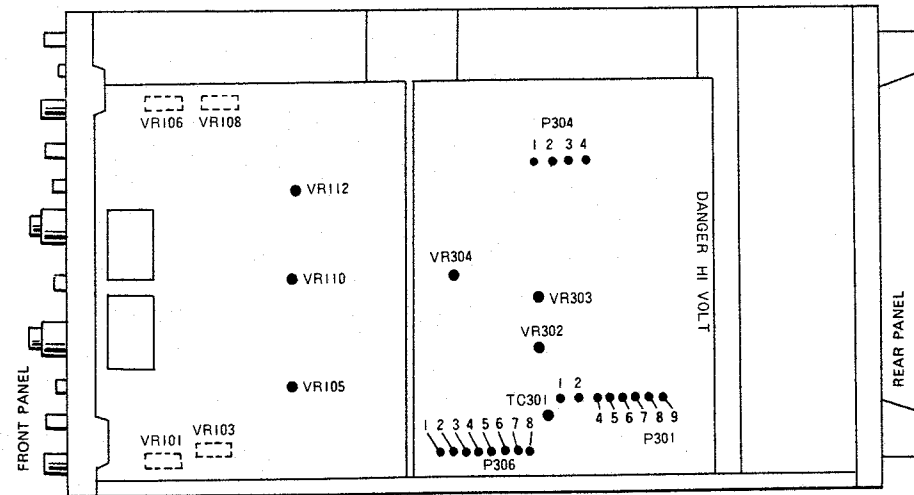

Fig. 40 Location of adjustments, bottom of scope
Next, measure the voltage on the pins 2 through 5 of P306 and on the pin 1 of P304 to check that these voltages are /8V, +5V, +15V, +10V and +120V, respectively. (Fig. 40)
With INTENSITY knob set in the 11 o'clock position, adjust VR302 until the trace disappears, then adjust TC301 so that the brightness at the sweep starting point is the same as the brightness at other points (SWEEP TIME/DIV in 0.2 μs position). Finally, adjust the spot with FOCUS and ASTIG. (Fig. 40)
7. POSITION Adjustment (Fig. 40)
With POSITION knob set in the mechanical center position, adjust VR112 until the trace is centered on CRT. (Fig. 40)
With a calibrated 1 kHz 0.5V signal applied, adjust VR110 for 5 DIV deflection. (Fig. 40),